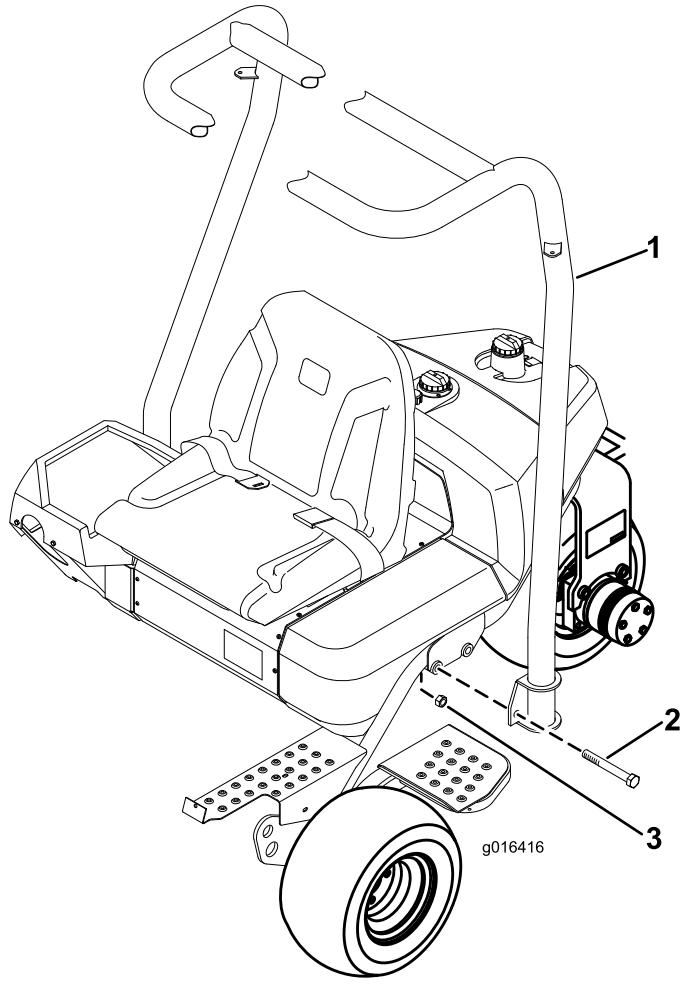

Figure 7
1. Position the ROPS so the top of the tube is curved toward the front of the machine (Figure 7).
- Lower the ROPS onto the frame, aligning it with the mounting holes (Figure 7).
- Secure each side of the ROPS to the frame with (2) bolts (5/8 x 4-1/2 inches) and locknuts as shown in Figure 7. Torque to 135-165 ft-lb (183-223 N-m).